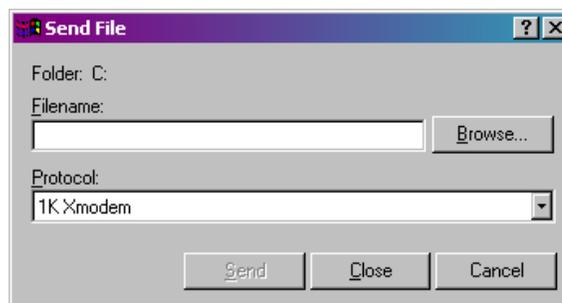
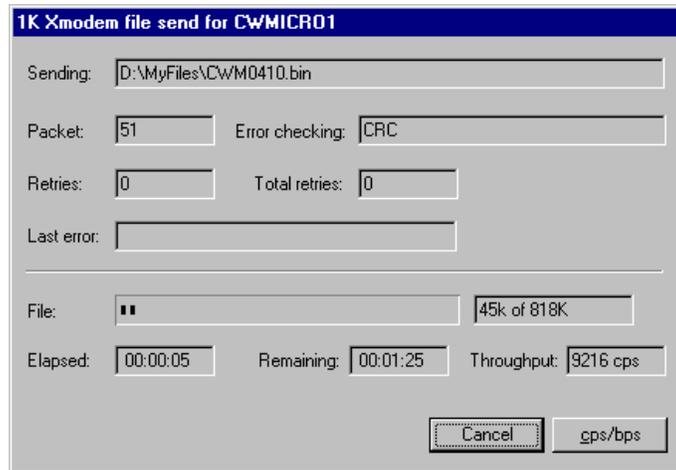

Figure 5-3. Send File dialog box
Figure 5-4. HyperTerminal (Download in Process)
8. In the Send File dialog box (see Figure 5-3), select **1KXmodem** for the protocol, enter the filename of the appropriate .bin file in the format “CWPxxxxx.bin” (where xxxxx varies from release to release) and click **Send** to start the flash upgrade (see Figure 5-4). When you see the HyperTerminal Mode Menu again, it means the download has completed.